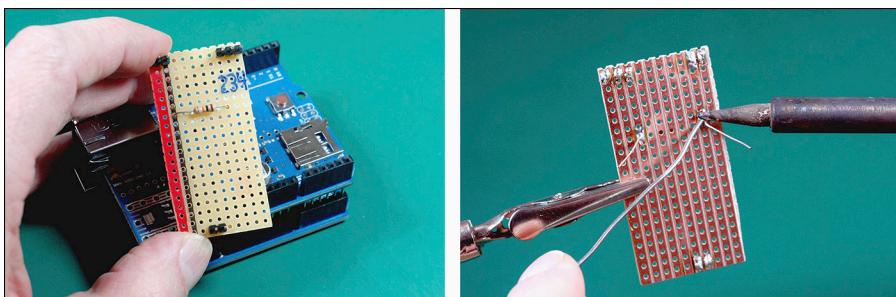

Figure 12-13:
One edge of the board now has five pins soldered to it. With those pins at the top, insert the legs of your resistor through the non-copper side of the stripboard. The legs should be in the second and eighth copper strips, as shown in Figure 12-13. It doesn't really matter what row you place the resistor in. Any row will do, but you need to leave room for your sensor wires.
7. Bend the resistor's legs slightly to hold it in place. Then, flip the board over and solder your resistor onto the copper strips, as shown in Figure 12-13.